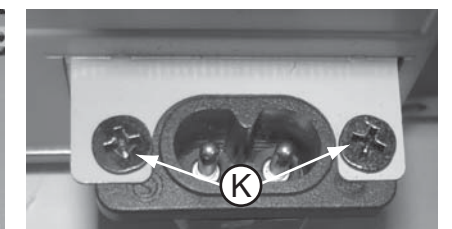

Figure 11
- 2) Loosen 2 screws "K" to remove the AC socket as shown in figure 11.